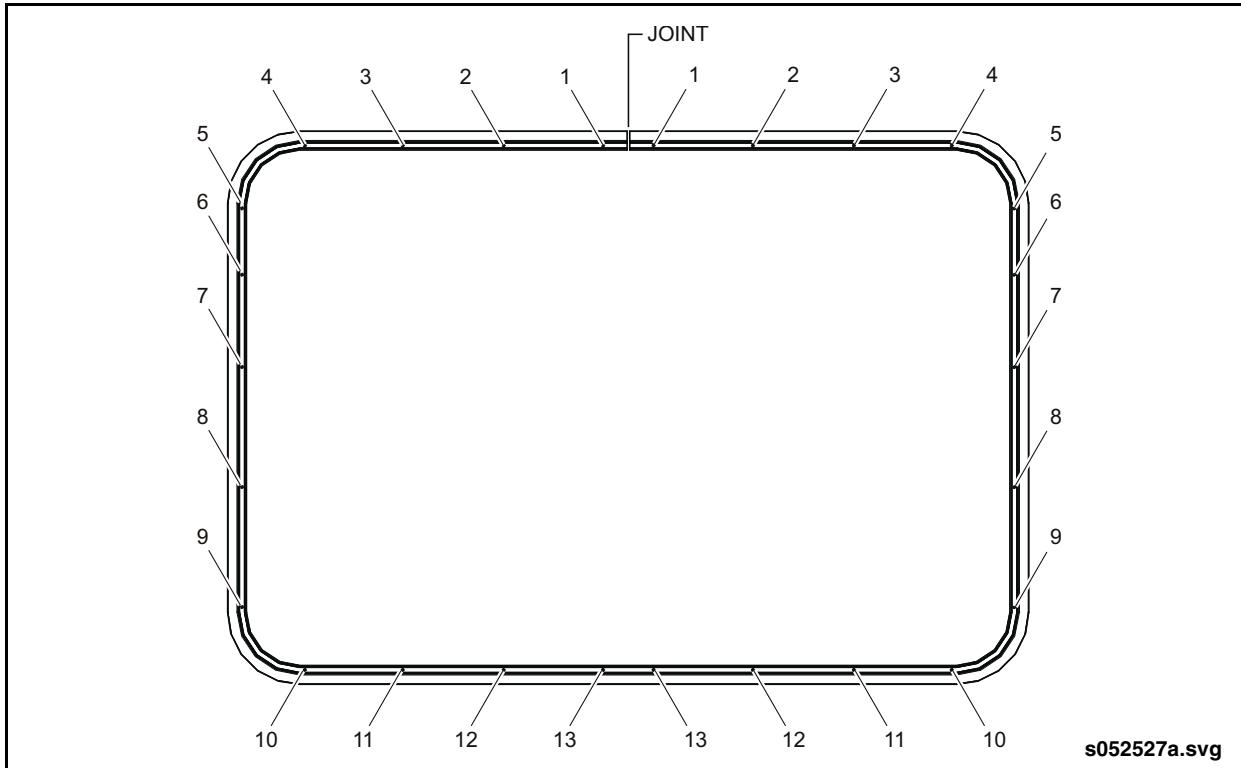

Fig. 14-30: Final Screw Tightening Sequence
7. Apply final torque of 45 in-lb. to all screws in proper sequence. See “Fig. 14-30: Final Screw Tightening Sequence” on page 35.